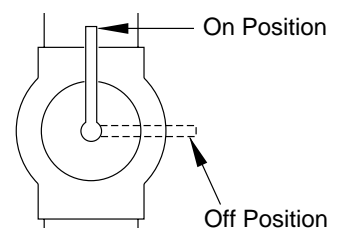

Figure 18 - Equipment Shutoff Valve
4. Turn equipment shutoff valve clockwise  to OFF position (see Figure 18).
5. Wait five (5) minutes to clear out any gas. Then smell for gas, including near the floor. If you smell gas, **STOP!** Follow "B" in the safety information, column 1. If you don't smell gas, go to next step.
6. Turn equipment shutoff valve counterclockwise  to ON position (see Figure 18).